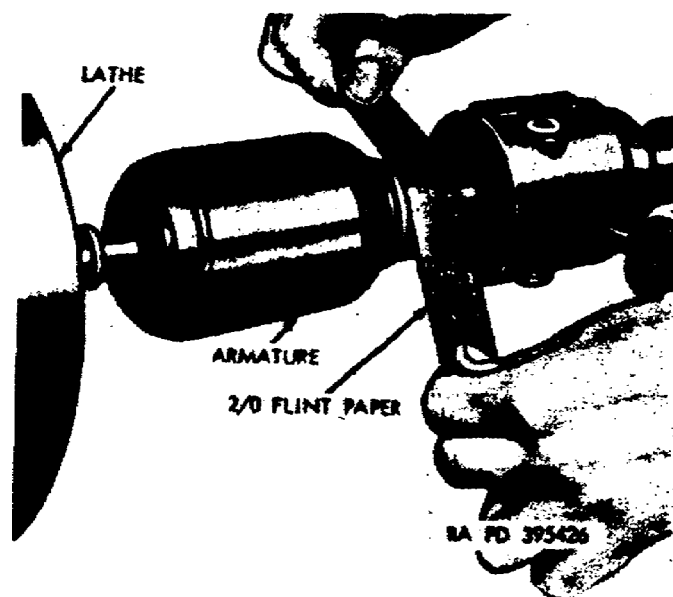

Figure 26. Polishing commutator.
(2) With the mica now undercut, remove all copper and mica particles with compressed air. Install the armature on the lathe once again and rotate it to 1,500 RPM. Polish the commutator with No 2/0-sandpaper as shown in figure 26. After polishing, check the armature diameter to see if it has remained within the limit specified in the repair standards (foldout 2).